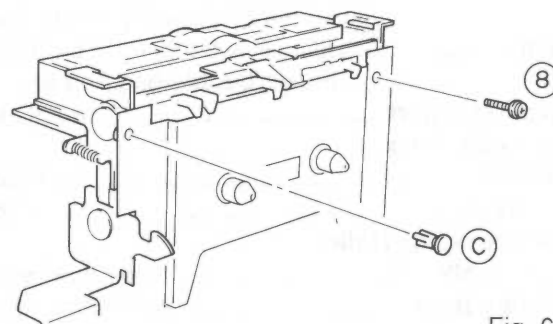

Fig. 6
- Remove 1 screw (⑧) and 1 plastic rivet (©) in fig. 6 and then remove the back plate.